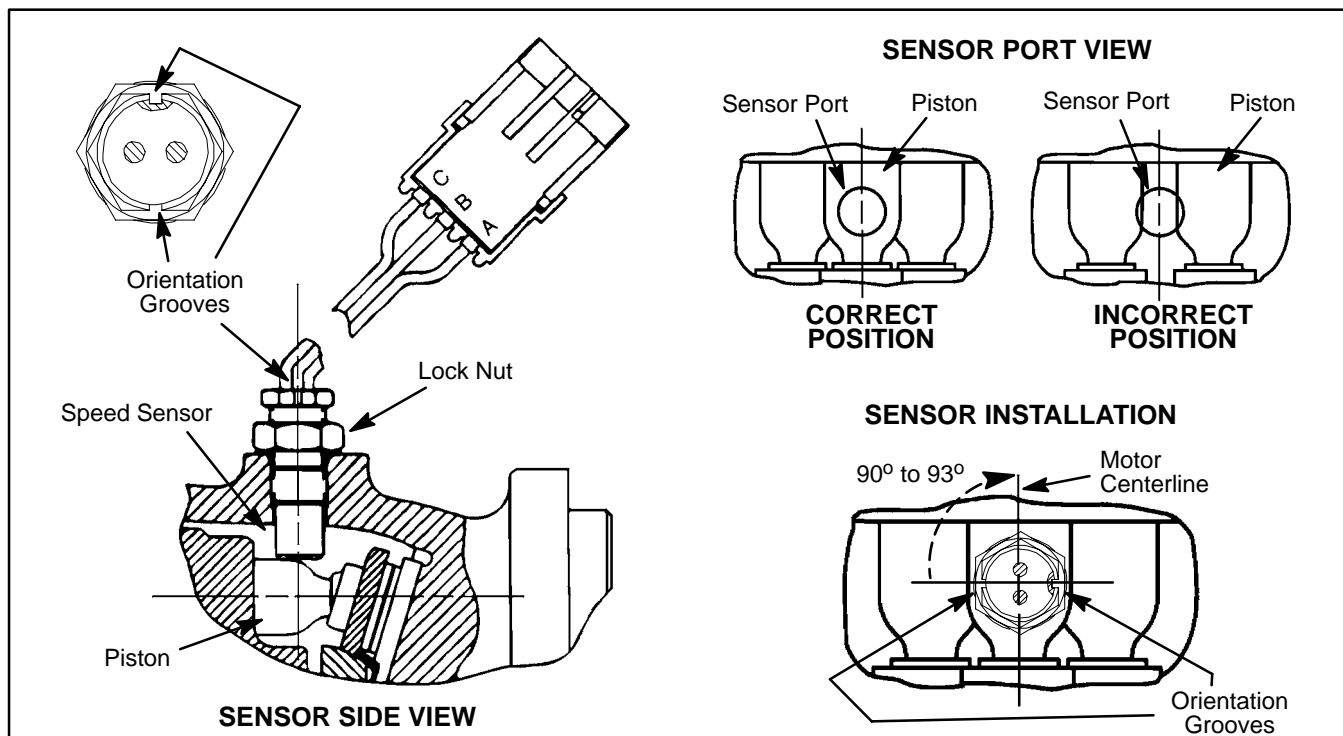

Figure 48
2. Center a wheel motor piston in the center of the sensor port (see Sensor Port View in Fig. 48). Use a suitable tool to feel when a motor piston is in the center of the sensor port.
5. Turn sensor out (counter-clockwise) until angle between sensor orientation grooves and motor centerline is between 90° and 93° , then back out sensor one (1) full turn. Hold sensor at this position and torque lock nut from **75 to 125 in-lb (8.5 to 14.1 N-m)**.